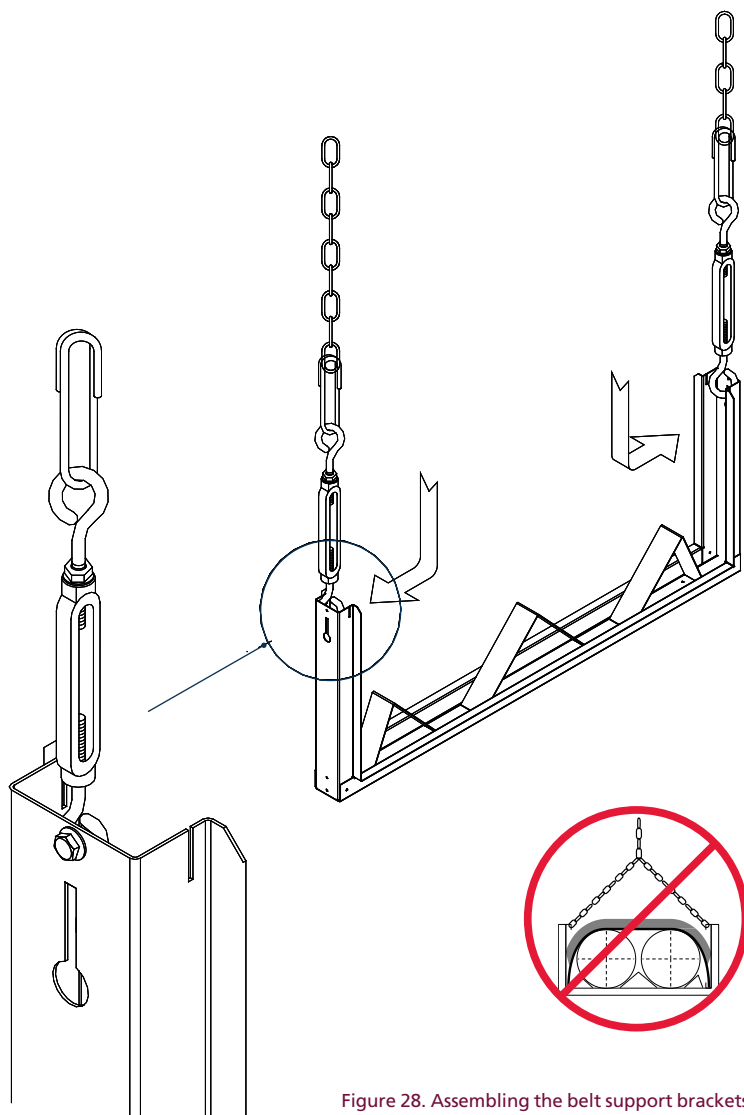

Figure 28. Assembling the belt support brackets
2. Fix the turnbuckle & speedlink to the support bracket using nut & bolt as shown in the enclosed figure, (refer to detailed Figure 28).
3. For the chain capacity, refer to the strip weights that are given in Table 7 on page 8 and the notes in Figure 28.